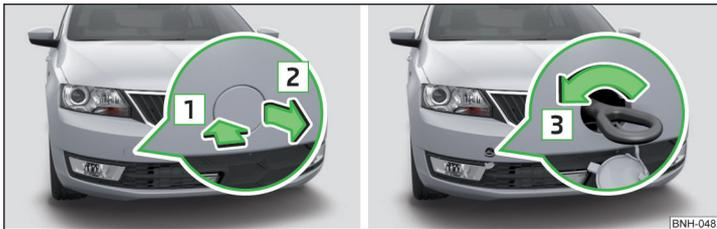

Fig. 141 Removing the cap/installing the towing eye
- Press on the cap in the direction of the arrow 1 » Fig. 141.
- Manually screw the towing eye as far as it will go in the direction of the arrow 3 » Fig. 141 » !.